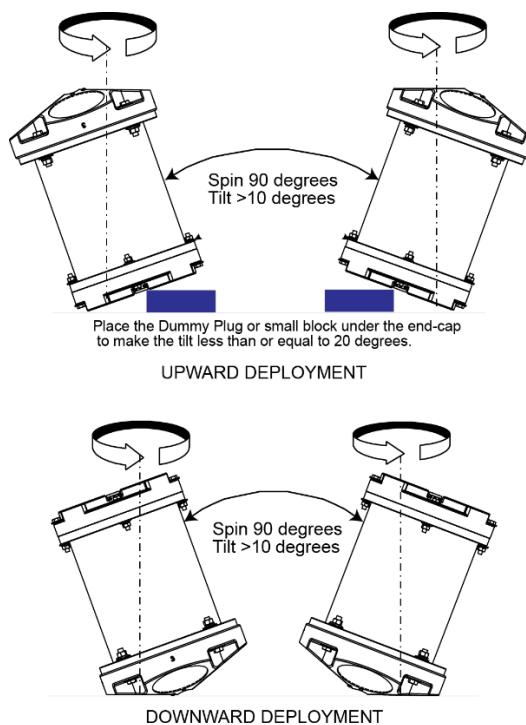

Figure 52. Compass Calibration
5. Tilt the ADCP (see Figure 52). Tilt an upward-looking WorkHorse with a block under one side of the end-cap. A 35-mm block will give you an 11-degree tilt. Check the on-screen instructions to see if the orientation is OK. Adjust as necessary.
7. The second rotation requires the ADCP to be tilted 15 degrees in another direction than from the first rotation (see Figure 52). Follow the on-screen instructions to orient the ADCP correctly. When prompted, rotate the ADCP slowly 360 degrees (approximately 5 degrees per second).